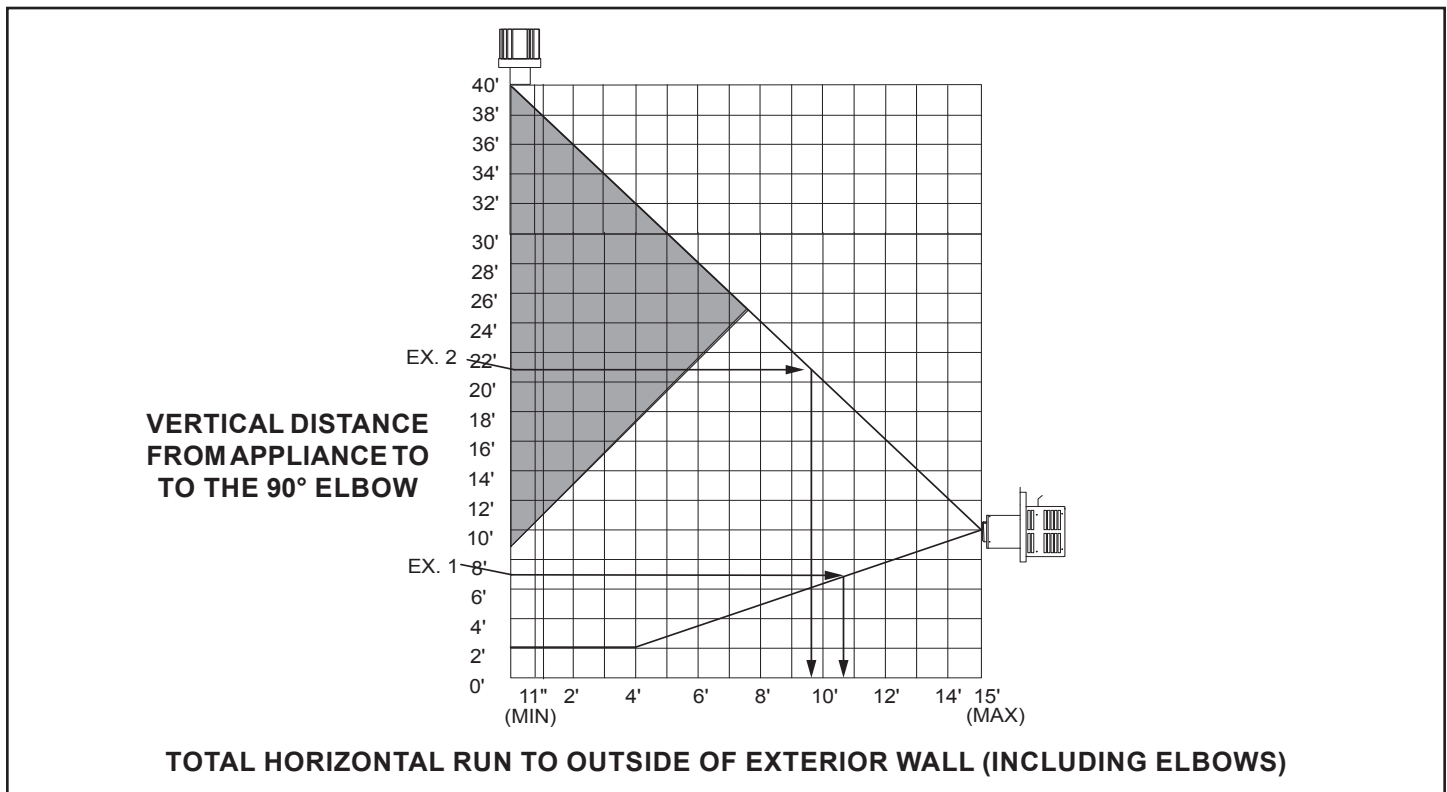
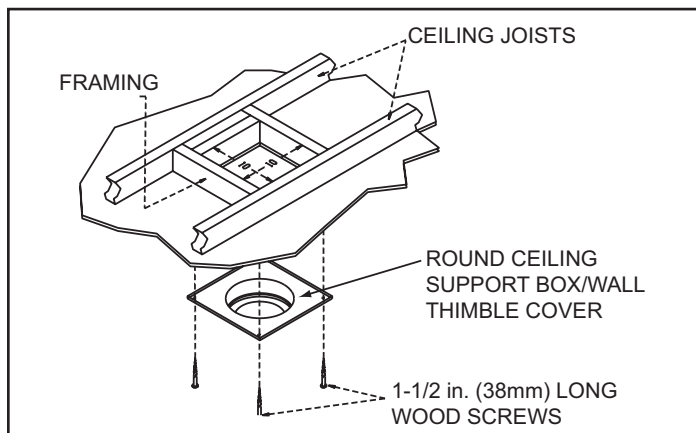
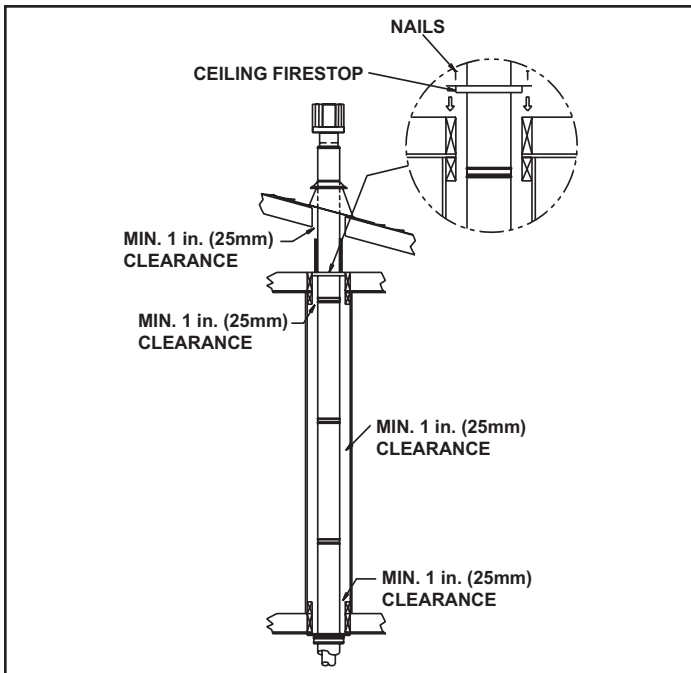

Figure 5.2
Figure 5.13
Figure 5.16
**Step 1** - Check the installation instructions for required 1 in. (25mm) clearances (air space) to combustibles when passing through ceilings, walls, roofs, enclosures, attic rafters, or other nearby combustible surfaces. See Figure 5.16. Check the instructions below for maximum vertical rise of the venting system, and any maximum horizontal offset limitations. All offsets must fall within the set parameters of the vent graph, Figure 5.2.
**Step 3** - To install the round support box/wall thimble cover in a flat ceiling, cut a 10 in. (254mm) square hole in the ceiling, centered on the hole drilled in Step 2. Frame the hole as shown in Figure 5.13.
**Note:** For multi-story vertical installations, a ceiling firestop is required at the second floor, and any subsequent floors (Figure 5.16). The opening should be framed to 10 in. x 10 in. (254mm x 254mm) inside dimensions, in the same manner as shown in Figure 5.13.